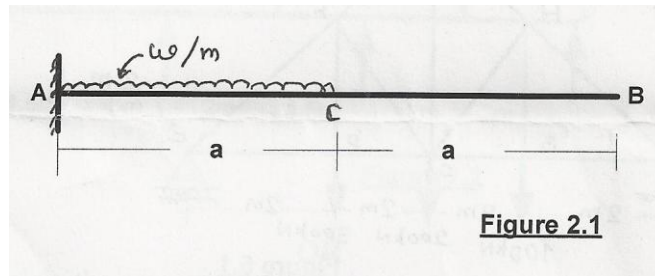

Figure 2.1
c) Using Castigliano's first theorem, find deflection at free end of the beam shown in figure 2.1 (7)